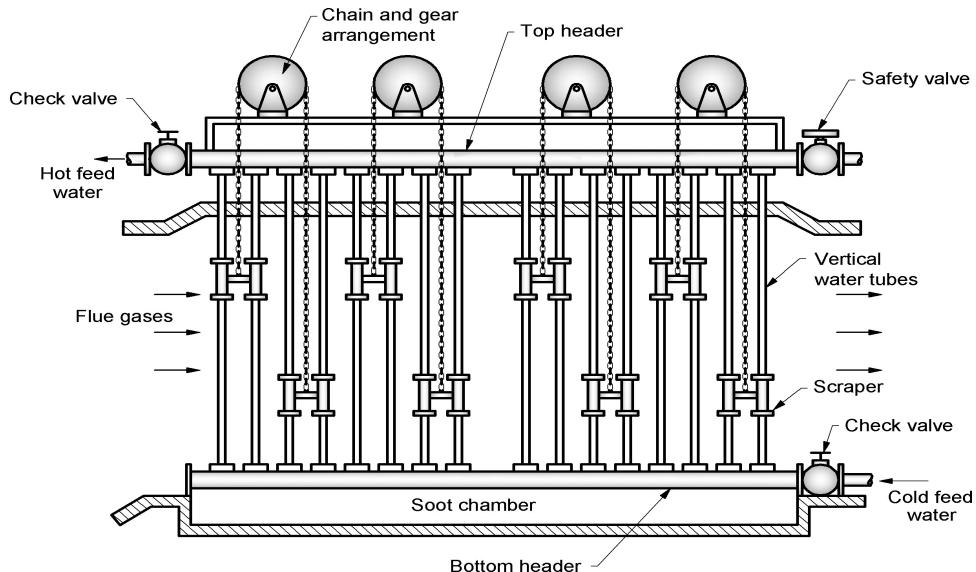

Fig. 2.12 Economiser
- (1) Fig. 2.12 shows schematic diagram of Green's vertical tube economiser used in Lancashire boiler. It consists of series of vertical tubes made of cast iron.
- (2) These tubes are connected at the top and bottom header. Bottom header is connected to a feed pump.
- (3) A safety valve is fitted on the top header for the safety of pipes against any high pressure of water that may be developed.
- (4) A blow off valve (not shown in Fig.2.12) is also fitted at the lowest point of the economiser to discharge mud or sediments present in feed water.
- (5) Each vertical pipe is fitted with a scraper which moves up and down with the help of chain and gear arrangement.